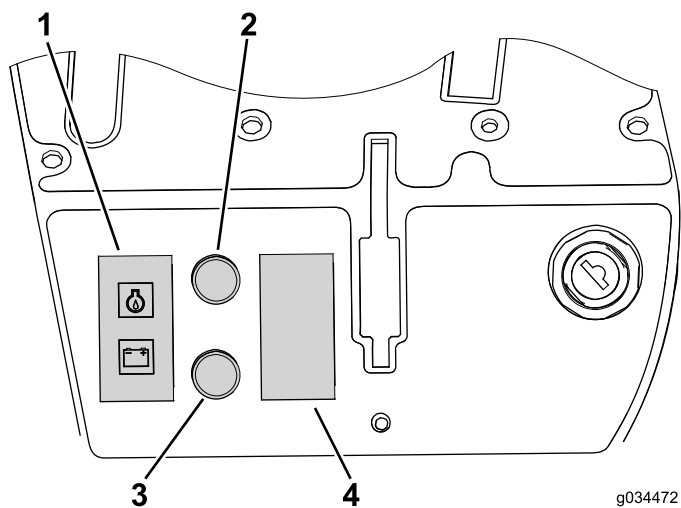
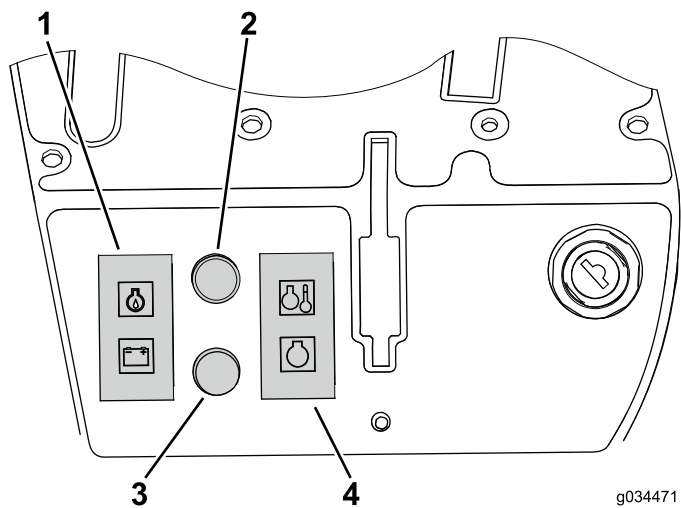

Figure 29
Figure 30
4. Install the warning indicator or hole plug that you removed earlier into the appropriate cutout (Figure 29 and Figure 30).